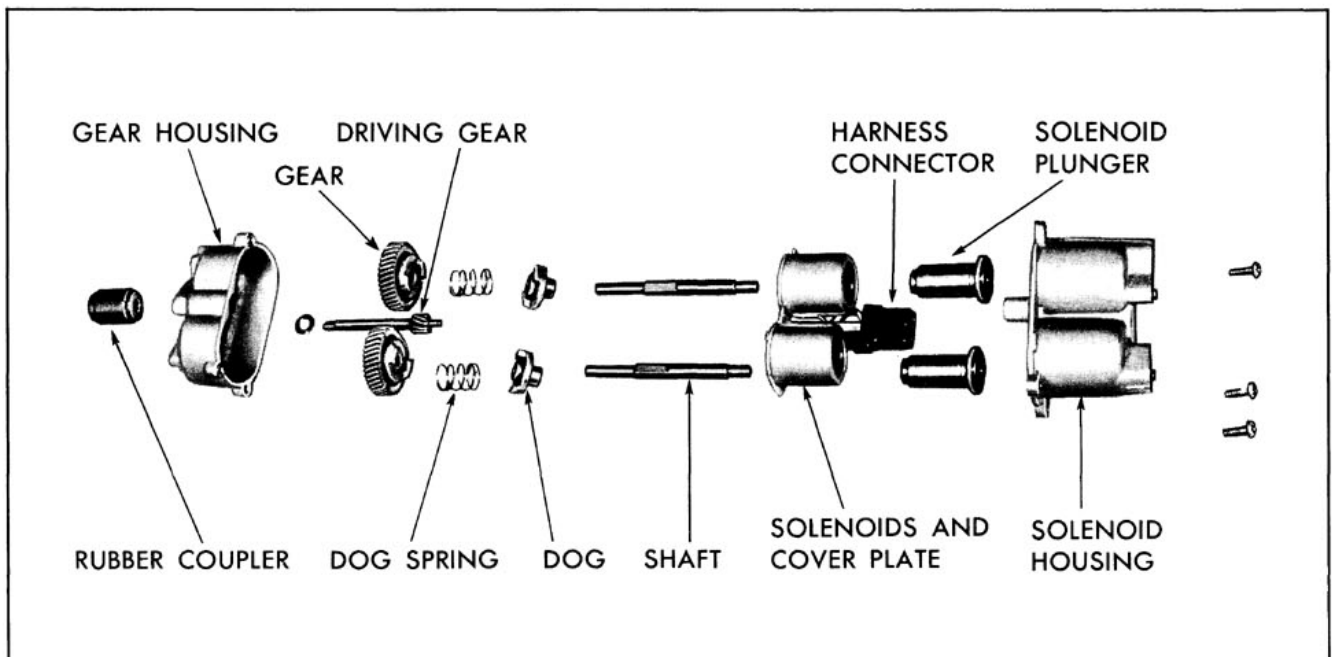

Fig. 16-96 Four-Way Seat Transmission
2. Remove screws securing gear and solenoid housings together; then, carefully separate housings and remove component parts of transmission assembly. (Fig. 16-96)